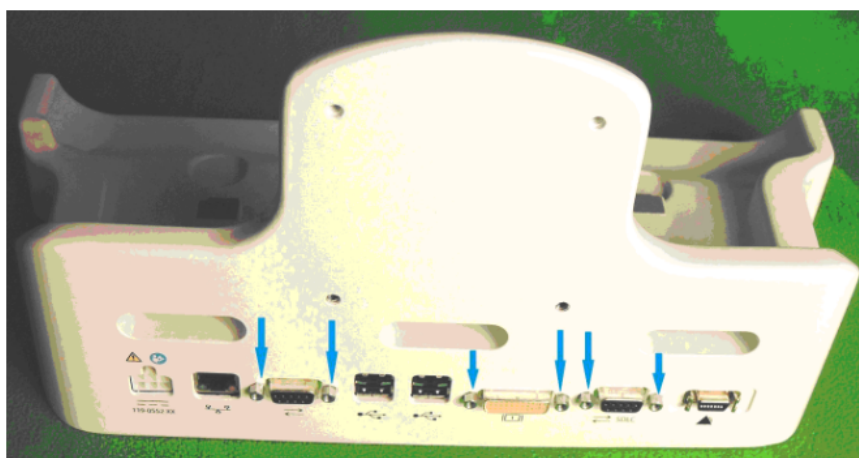

Figure 4-31 Docking Station Connectors
- 7 Remove the six (6) connector standoff screws from the back of the docking station with a nut driver. Refer to Figure 4-31.